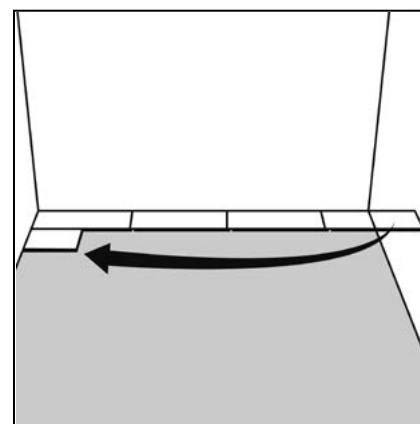

Figure 50 First plank, second row
- ▶ Insert a spacer between the end of the first row and the wall (expansion gap). Start this new row with the leftover piece from the last row (min. length 350mm – Fig 50).